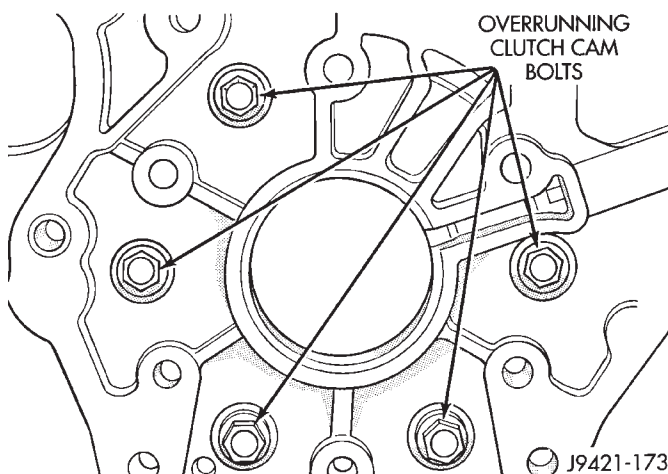
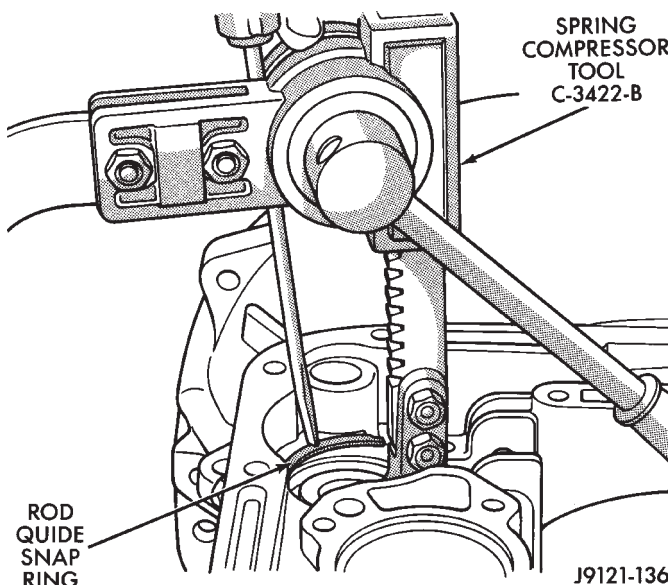
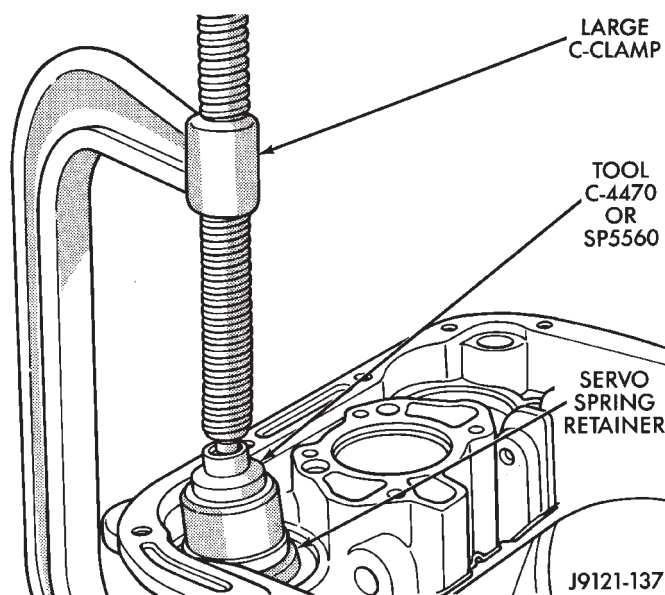

Fig. 27 Overrunning Clutch Cam Bolt Locations
Fig. 28 Compressing Front Servo Rod Guide
Fig. 29 Compressing Rear Servo Spring
(40) Remove bolts attaching overrunning clutch cam to case (Fig. 27).
(41) Remove low-reverse drum and overrunning clutch as assembly. Slide drum and clutch through rear band and out of case. Set drum and clutch assembly aside for cleaning and inspection.
(42) Remove rear band and link from case.
(43) Compress front servo rod guide about 3 mm (1/8 in.) with Valve Spring Compressor Tool C-3422-B (Fig. 28). A C-clamp and tool C-4470 can also be used to compress rod guide.
(44) Remove front servo rod guide snap ring (Fig. 28). **Exercise caution when removing snap ring. Servo bore can be scratched or nicked if care is not exercised.**
(45) Remove compressor tools and remove front servo rod guide, spring and servo piston.
(46) Compress rear servo spring retainer about 1.5 mm (1/16 in.) with C-clamp and Tool C-4470 or SP-5560 (Fig. 29). Valve Spring Compressor C-3422-B can also be used to compress spring retainer.
(47) Remove rear servo spring retainer snap ring. Then remove compressor tools and remove rear servo spring and piston.